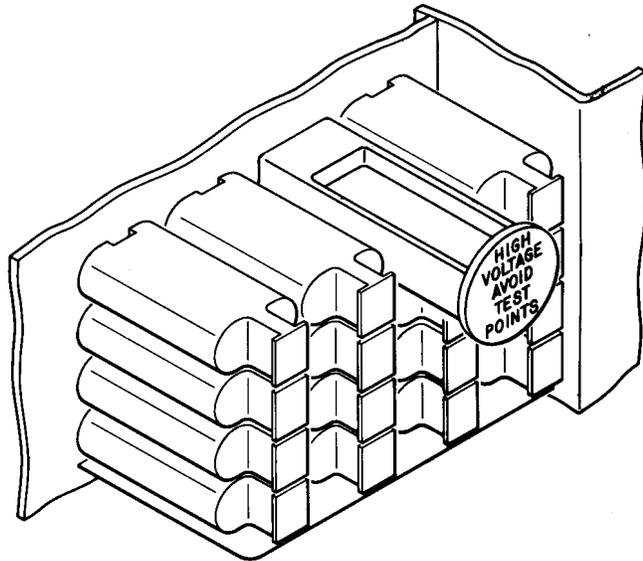

Fig. 1—E Warning Marker Installed on 302-Type Connector
3.02 This is accomplished by removing the protector unit associated with the high voltage pair and installing an E-warning marker in its place (Fig. 1). Removal of the protector unit leaves the associated outside plant pairs unprotected from high voltage.